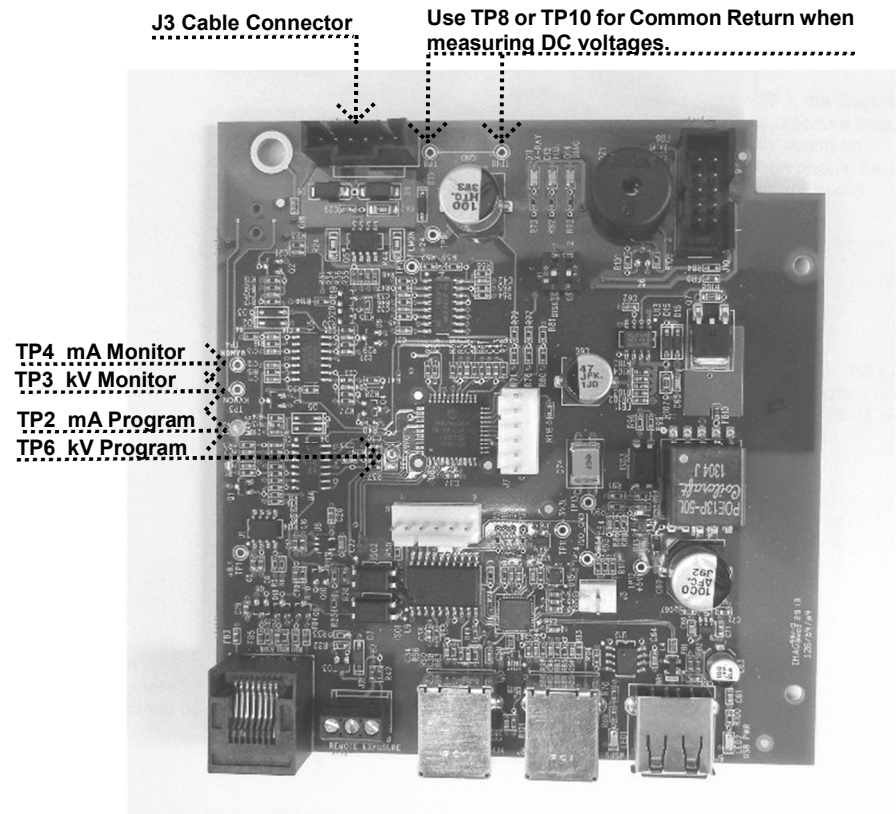

Figure 67
3. If the cabling is found acceptable, select 1.5 seconds of exposure time, and placing a DC voltmeter on TP8 or TP10, the Common Return on the Logic Board, measure the feedback values at TP4 mA Monitor and TP3 kV Monitor, as shown in Figure 67. Look for the following values:
1. On the Logic Board, place a voltmeter on TP8 or TP10, the Common Return, and TP6, kV Program, as shown in *Figure 67*. Compare measurements to the following chart (volts DC).
2. To evaluate the feedback voltages that represent the measured kV within the system, compare the observed values in the table below. To properly observe these values, select 1.5 seconds of exposure time and measure the DC voltages during the exposure only. This measurement is made across TP8 or TP10, the common return and TP3, the kV Monitor, as shown in *Figure 67*.
1. On the Logic Board, place a voltmeter on TP8 or TP10, the Common Return and TP2, mA Program, as shown in *Figure 67*. Compare measurements to the following chart (volts DC).
2. To evaluate the feedback voltages which represent the measured mA within the system, refer to the table below; select 1.5 seconds of exposure time and measure the DC voltages during the exposure only. This measurement is made across TP8 or TP10, the Common Return, and TP4, the mA Monitor, as shown in *Figure 67*.